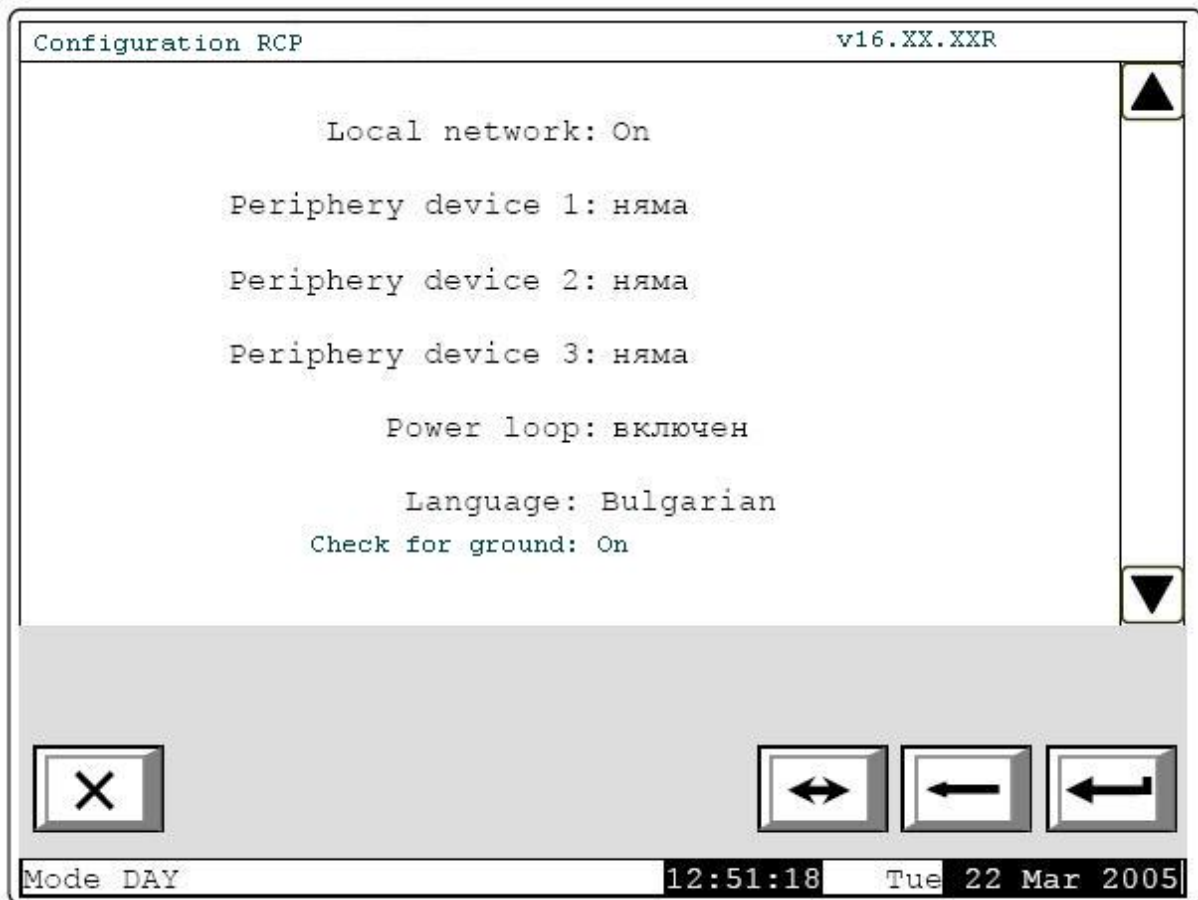

fig. 4
2.1. Enable the CAN network function - menu "setup -> panel configuration", parameter "Local network" must be "On" (fig.4)